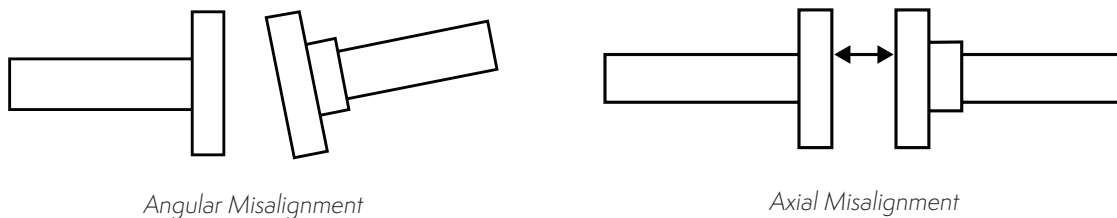

Figure 16 – Checking Angular and Axial Misalignment
6. Check angular and axial misalignment between the drive shaft and both the motor and gear drive couplings. (**Figure 16**).